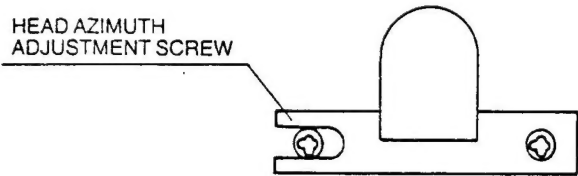

Figure 7
- b. Adjust the azimuth adjustment screw for maximum output. (See Fig. 7)